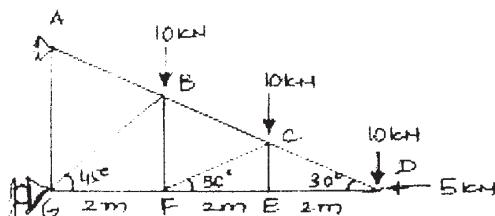

figure 1
**Q1)** For the given truss, find forces and mention their nature. (figure 1).